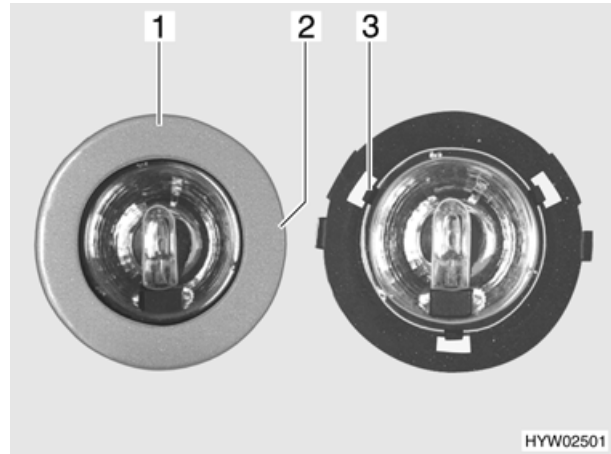

Fig. 96 Halogen lamp
- Turn the panel (Fig. 96,1) slowly until the shade screw underneath engages in the housing catch (Fig. 96,2).
- Three clamps (Fig. 96,3) hold the glass of the halogen lamp in the housing. Push one of the three clamps to one side.